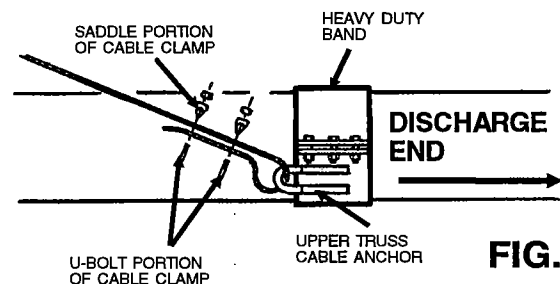

FIG. 45
Step 7. Mount the upper truss cable anchors to auger tube using a heavy duty halfband and six 3/8" x 1 1/2" long (grade 5) hex head capscrews and nylon locknuts. NOTE: The upper truss cable anchor is mounted on the under side of the tube. See Fig. 45 on page 36.
Step 13. Attach truss cables to upper cable anchors using two cable clamps per each cable. **NOTE:** Secure the clamp u-bolts against the loose end of the cable. See Fig. 45.